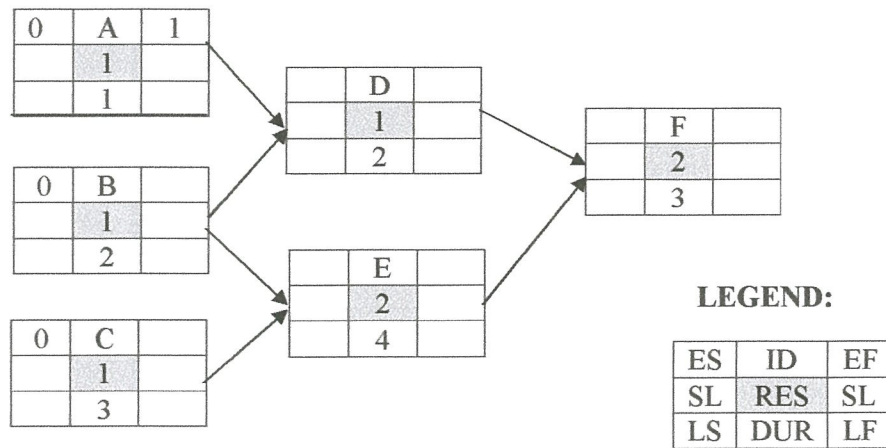

Figure Q4 : Schedule for Project PUTRA ONE
- Q4** (a) You are the project manager for a High Rise Condominium Project (titled as: PUTRA ONE) in Putra Jaya, and you have prepared the project schedule involving the use of tower cranes as the main resource based on information in **Figure Q4**. Activity E dan F requires 2 'cranes', and activity A, B, C dan D require 1 crane each. The original resource scheduling is based on using a total of 3 cranes.
- (i) Prepare a completed Critical Path Precedence Diagram for project PUTRA ONE in **Figure Q4**.